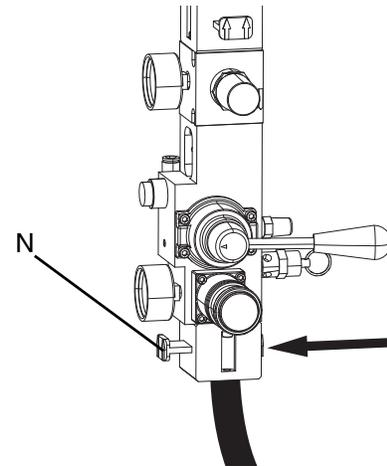

FIG. 4: Open Main Air Slider Valve
NOTE: The ram director valve handle (L) is used to raise and lower the ram. Put the handle in the neutral position as shown in **Figure 4** to stop the ram from raising or lowering and to prevent any unintended movement.